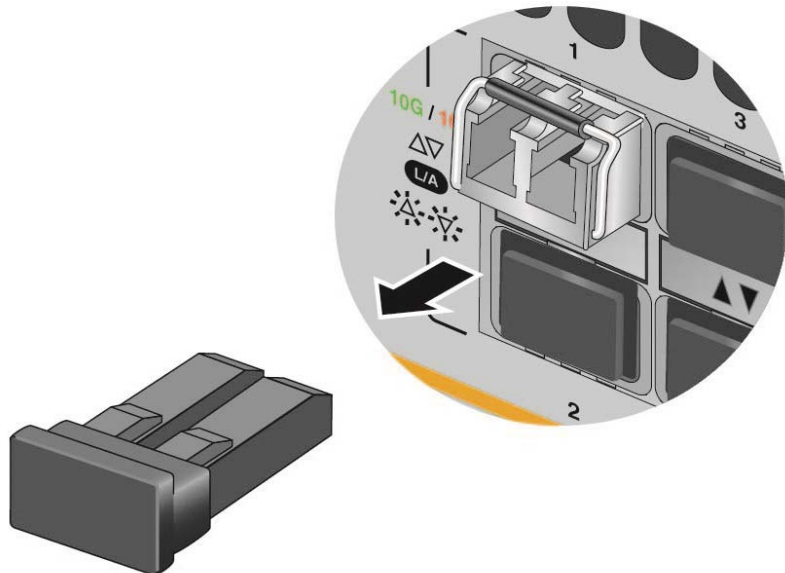

Figure 69. Removing the Dust Cover from an SFP or SFP+ Transceiver
5. Remove the dust cover from the transceiver, as shown in Figure 69.